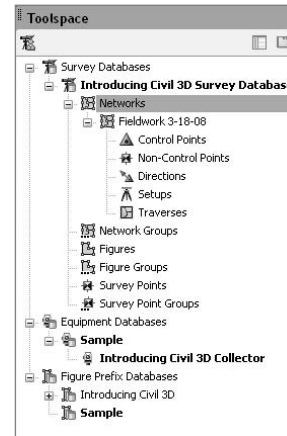

Figure 4.13
4. In the New Network dialog, name the network **Fieldwork 3-18-08**. Click OK. Placeholders for Control Points, Non-Control Points, and more will appear under Networks in the Toolspace, as shown in Figure 4.13.